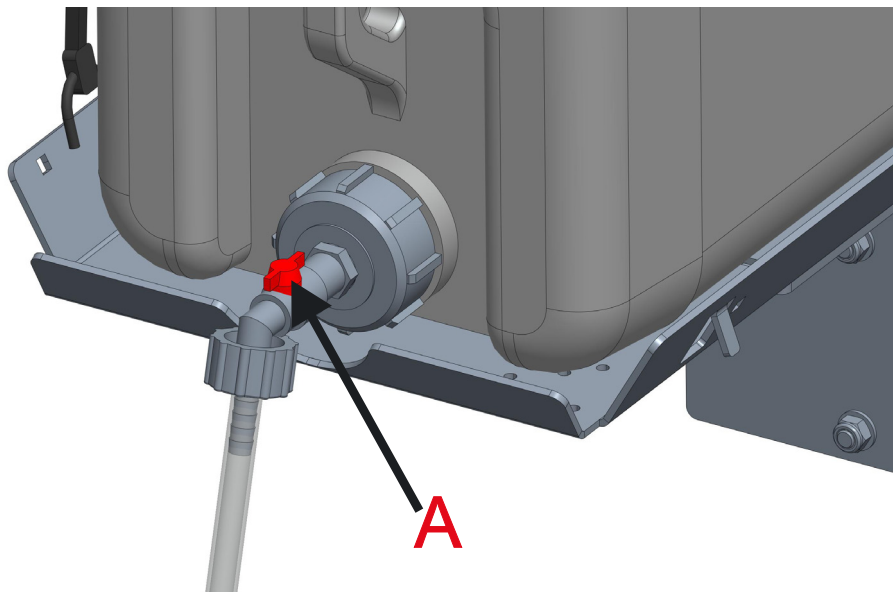

FIG. 2-15.
See Figure 2-15. Open the valve (A) on the water bottle. The sawmills are equipped with a solenoid valve that automatically starts the flow of water when the power feed is switched on in the forward direction. The solenoid will stop the water flow when the feed switch is returned to the neutral position.